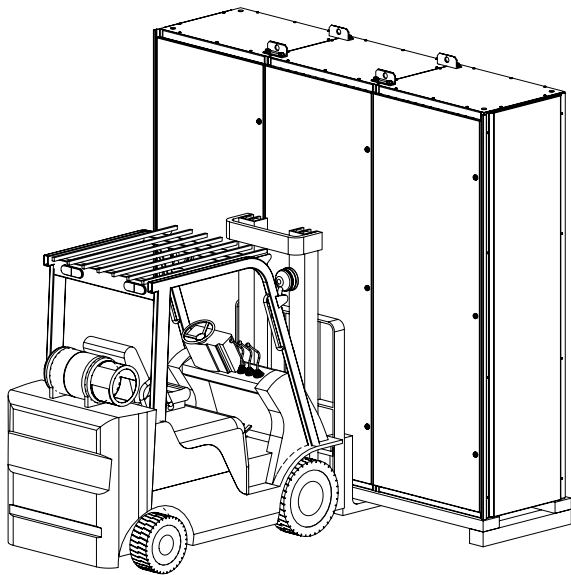

Figure 3-13 Fork-lift transport
- By fork-lift truck (see Figure 3-13).